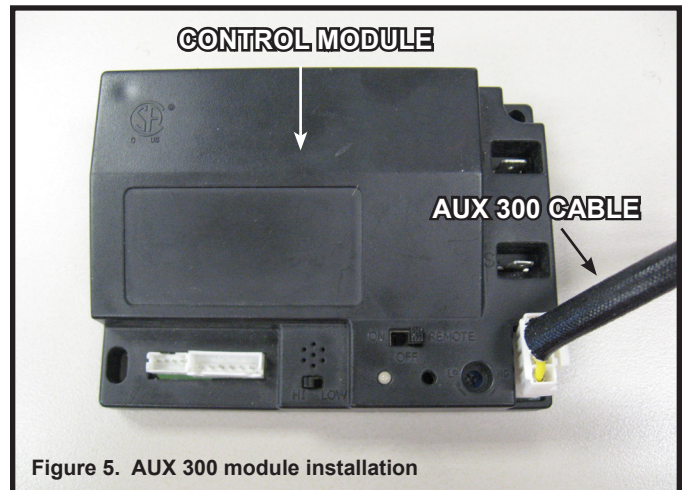

Figure 5. AUX 300 module installation
- Insert the 4 hole harness from the AUX300 module into the 4 pin plug on the control module. See Figure 5.